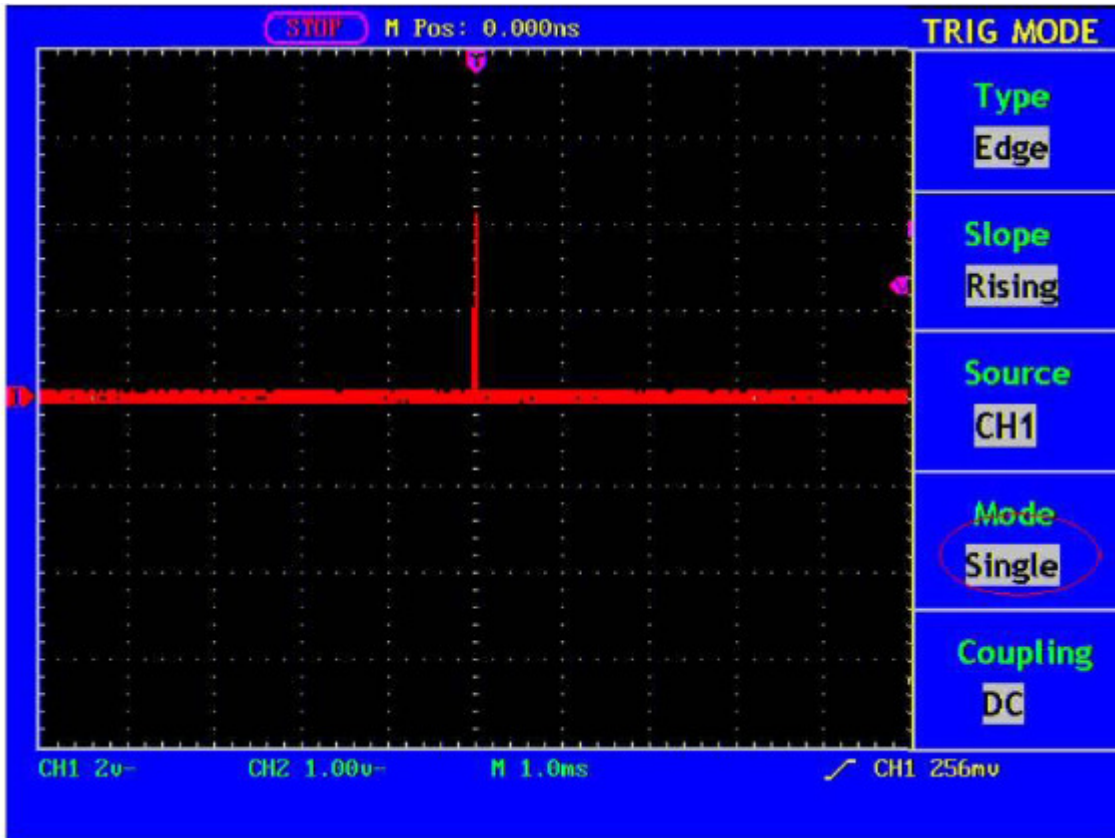

Fig. 60 Capture the Single Signal
10. If the **Trigger State Indicator** at the top of the screen does not indicate **Ready**, push down the **RUN/STOP** button and start **Acquire**, waiting the emergence of the signal in conformity with the trigger conditions. If a signal reaches to the set trigger level, one sampling will be made and then displayed in the screen. With this function, any random occurrence can be captured easily. Taking the burst burr of larger amplitude for example, set the trigger level to the value just greater than the normal signal level, and then press the **RUN/STOP** button and wait. When there is a burr occurring, the instrument will trigger automatically and record the wave form generated during the period around the trigger time. With the **HORIZONTAL POSITION** knob in the horizontal control area in the panel rotated, you can change the horizontal position of the trigger position to obtain the negative delay, making an easy observation of the waveform before the burr occurs (see Fig. 60).